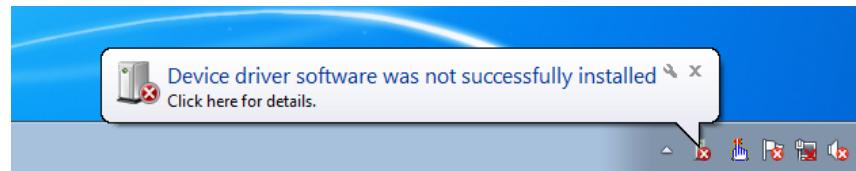

Fig. 1-15 (Windows 7)
**NOTE:** If the connection port of the USB cable is changed, the window shown in Fig. 1-15 will appear, and the setup will have to be made again. Repeat the preceding steps 3 to 13 in this case.